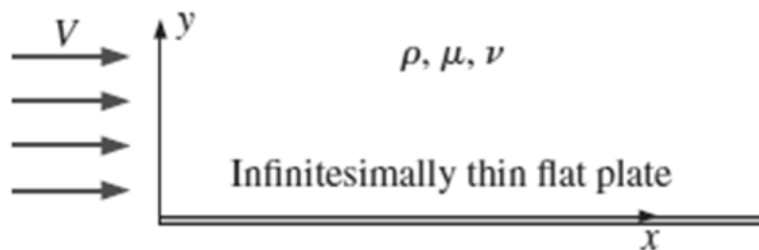

Figure 2.
2. Consider a fluid that flows over a smooth flat plate as depicted in Figure 2.